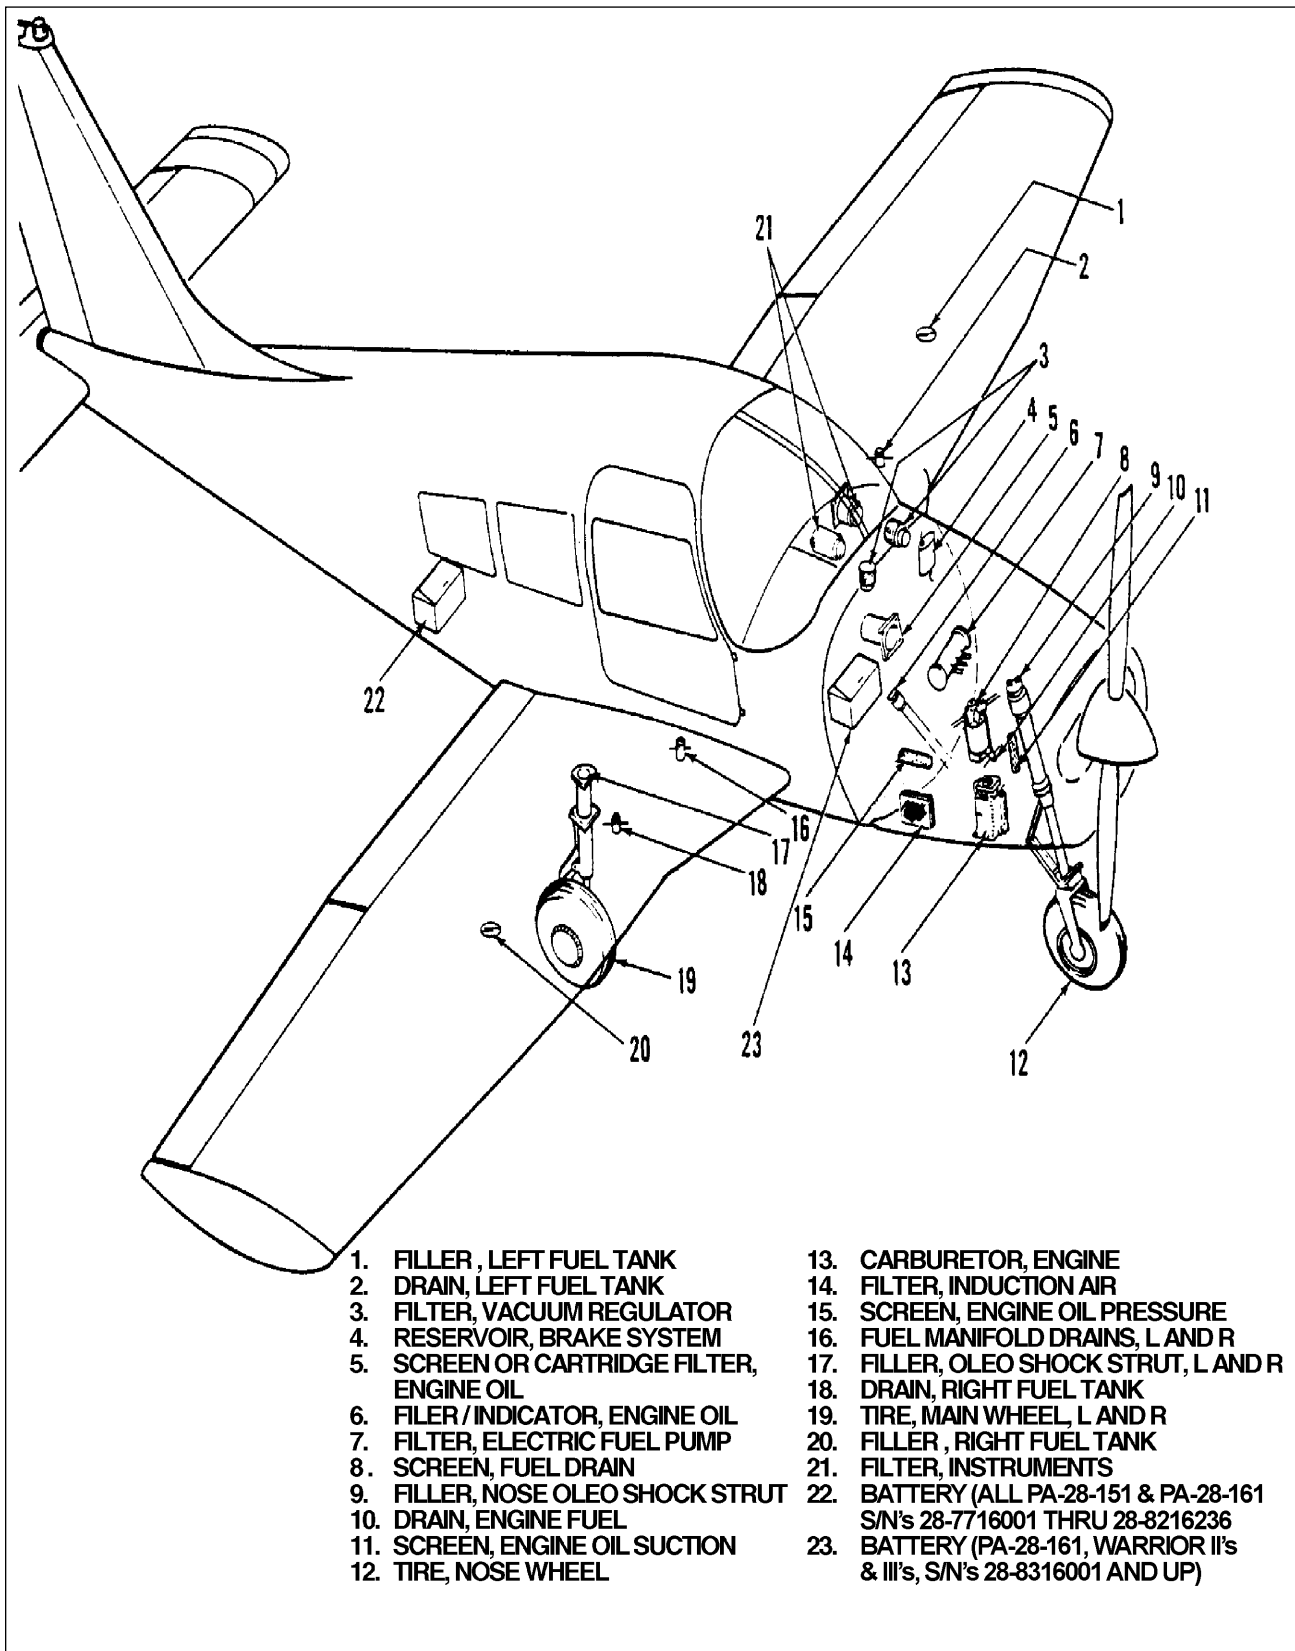

Figure 2-8. Servicing Points
- 2-30. INTRODUCTION TO SERVICING. (Refer to Figure 2-8.) Servicing the airplane includes the replenishment of fuel, oil, hydraulic brake fluid, tire pressures, lubrication requirements and other required items.